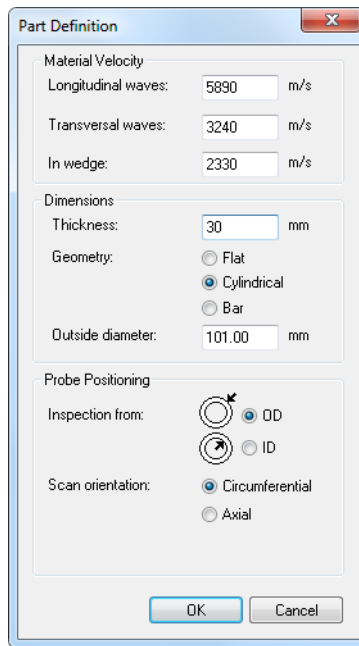

Figure 7-70 The Part Definition dialog box
4. In the **Part Definition** dialog box that appears (see Figure 7-70 on page 411), define the specimen as follows: